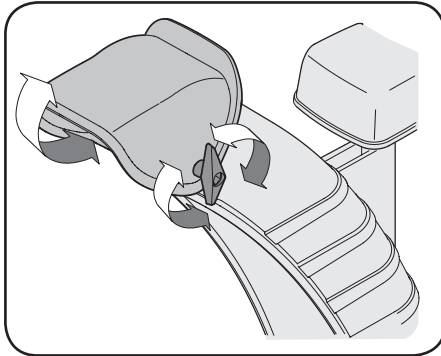

Figure 2-40
1. Loosen wing knob found on left side of chute assembly. See Figure 2-40.